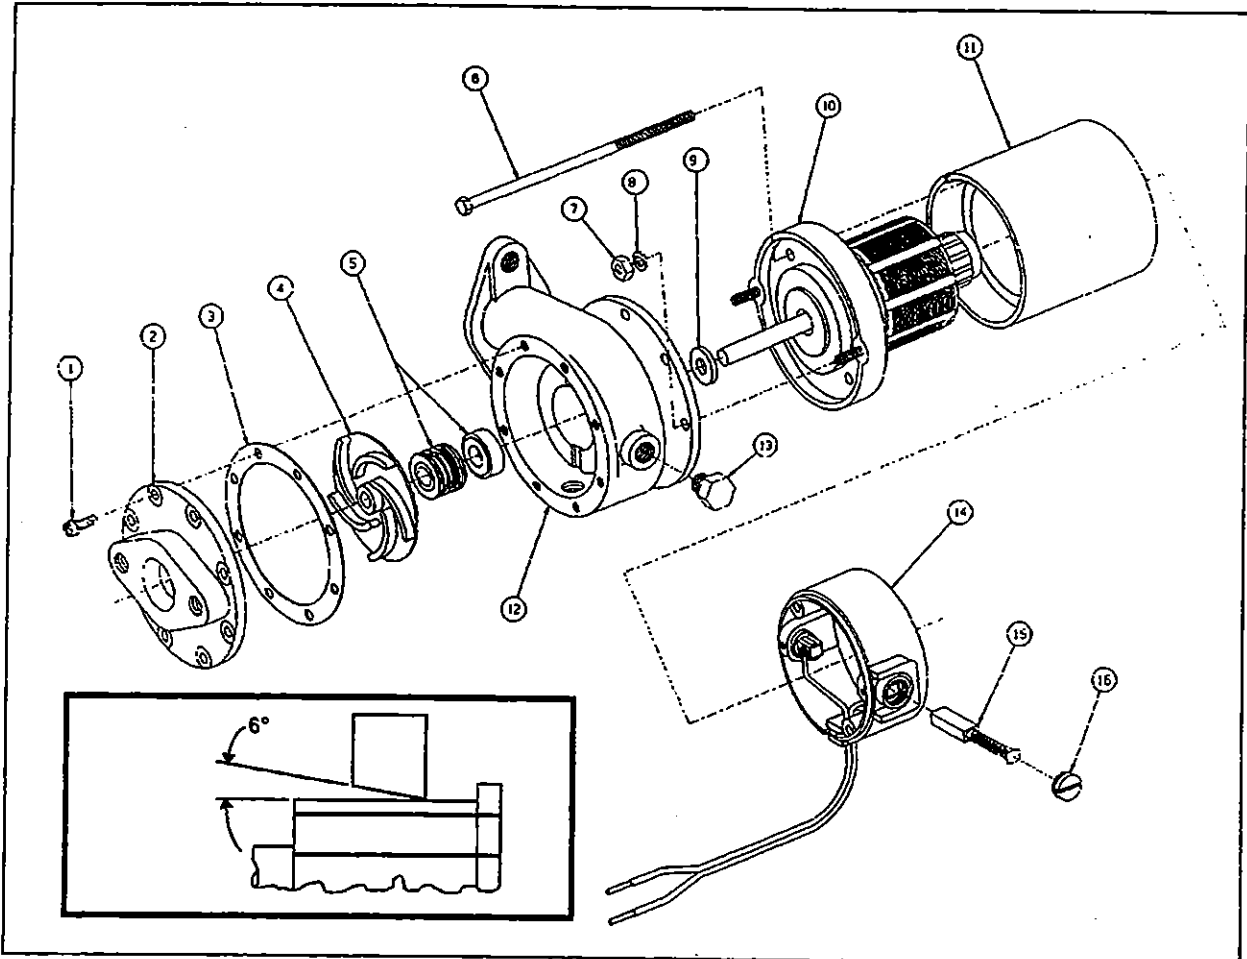

Figure 37: Water Recirculating Pump
12.3.3 Disassembly (Refer to Fig. 37, Water Recirculating Pump and Motor)
1. Remove two brush caps (16, Fig. 37) and two brush assemblies (15, Fig. 37). When removing brushes, note the position of the brush in the tube. Brush life is significantly decreased if brushes are not replaced properly.
2. Remove the pump cover (2, Fig. 37) by removing eight head screws. Remove cover carefully to prevent damage to gasket (3, Fig. 37).
3. Remove gasket (3, Fig. 37).
- a. Install puller tool assembly (MP Co. Part No. 24702 or equivalent) to pump body (12) using four screws removed from the pump cover (2).
7. Remove impeller (4) and components of the pump seal assembly (5).
12.3.5 Bearings (Fig. 37)
5. Install gasket (3). This gasket serves both to seal the cover and to establish the proper clearance between the face of the impeller and the pump cover.
12.3.7 Miscellaneous (Fig. 37)
1. Check the shaft slinger (9) to make sure it is tight on the motor shaft. If the slinger slips on the shaft, it should be replaced.
2. Inspect seal assemblies (5) to determine wear. If the seal has leaked, or is badly worn, it is recommended that a complete new seal assembly be installed.
3. The impeller (4) is a press fit on the armature shaft. This press fit must be maintained to prevent the impeller from slipping. Install a new impeller if necessary.
12.3.8 Assembly (Fig. 37)